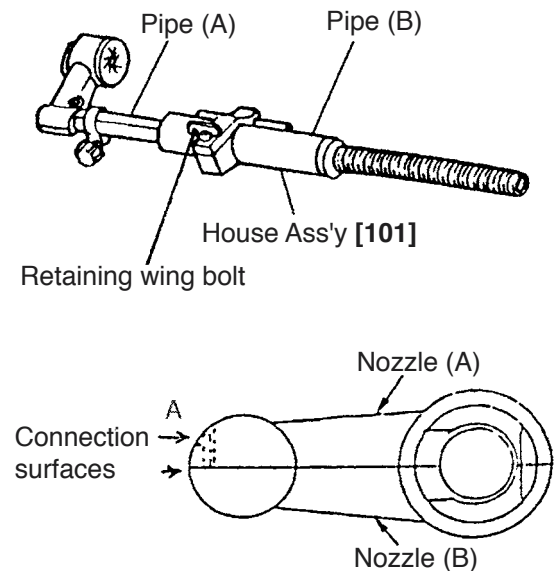

Fig. 14
- Disassembly of the dust collection adapter ass'y (Refer to Fig. 14.)